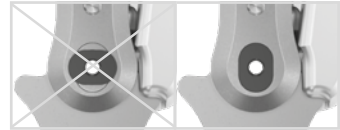

fig. 14
- 4 Place the bearing nut into the intended hollow on the joint's upper part. The bearing nut must be fully inserted in the hollow (fig. 14).